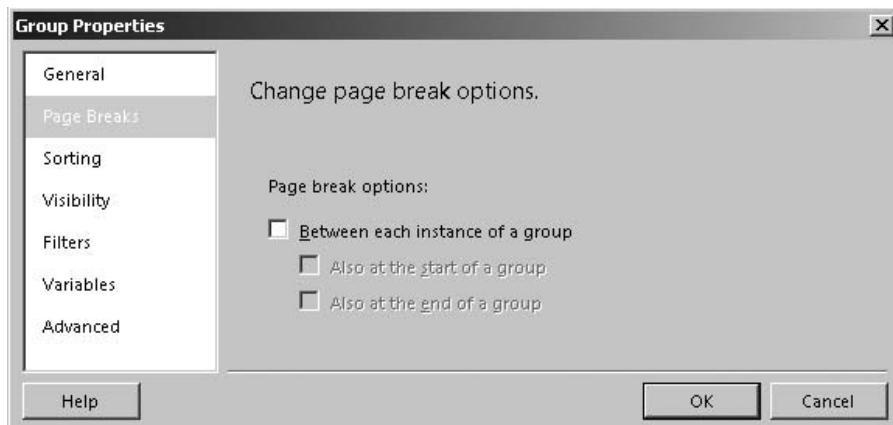

Figure 16-22 The Page Breaks page of the Group Properties dialog box
57. Select the Page Breaks page. This is shown in Figure 16-22. Using the Page Breaks page, we can specify whether the report should place a page break in between each grouping, as well as at the start of the set of groups, or at the end of the set of groups.